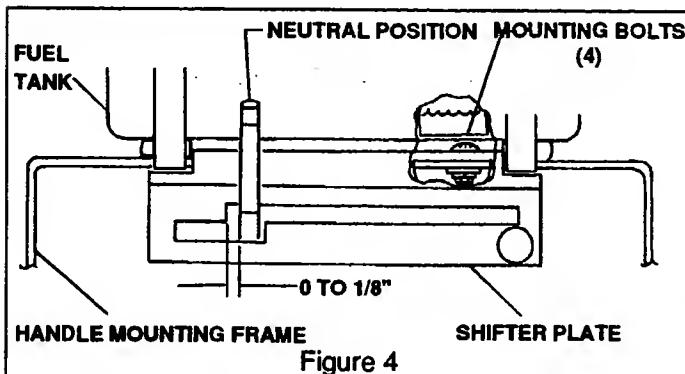

Figure 4
7. The shift plate should be adjusted so that the shift lever assembly is 0 to 1/8" away from the stop when the transmission is in neutral (see fig. 4). Tighten nuts securely.
- The shift lever is not adjustable, however the shift plate can be moved right to left allowing proper positioning for neutral (See fig. 4).